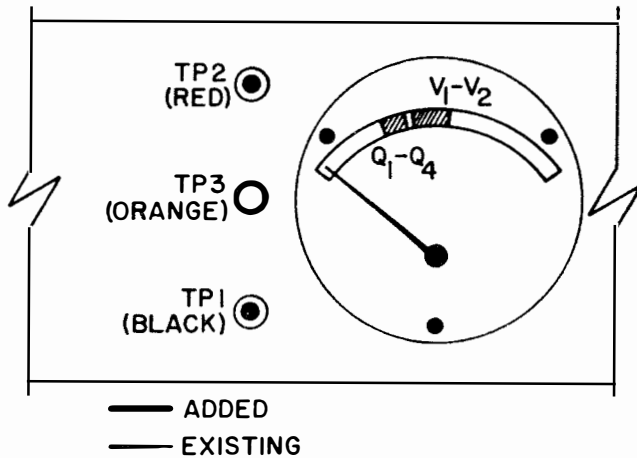

Figure 1. CU-1280/FRD-10A(V) Front Panel
1. Install a third test point (TP3—color: orange) mid way between TP1 (black) and TP2 (red) on the CU-1280/FRD-10A(V) front panel. See figure 1.